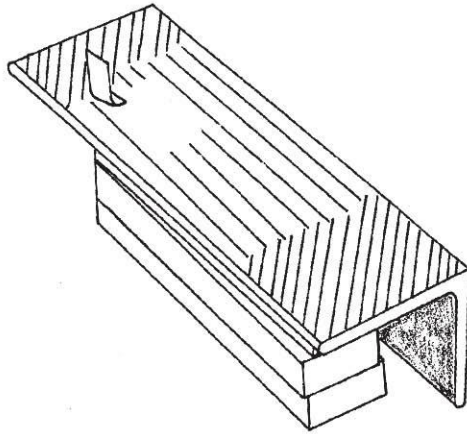

Figure 4: WELD TEST SCHEDULE
1. Using a capacitive discharge spot welder, establish proper weld schedule with sample carriers supplied with gage. A power setting of 12 - 18 watt seconds with a probe force of 3 - 6 pounds is a good starting point. Start low and gradually increase power until a good weld is achieved. Grasp the practice shim with a pair of pliers and peel from specimen. After proper welding the removal of the carrier will be difficult and will leave small weld nuggets on the specimen. The nuggets should be 40 to 60 mils in diameter. (Figure 4) (See Installation Tips C-1)